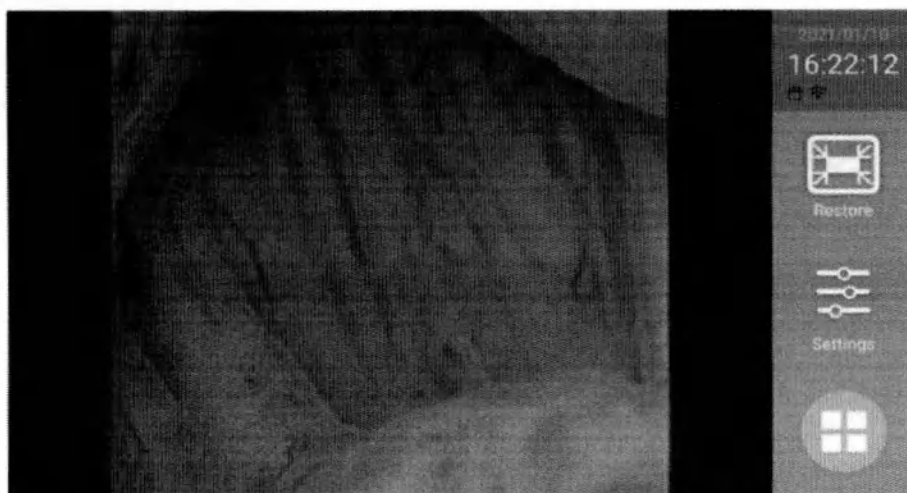
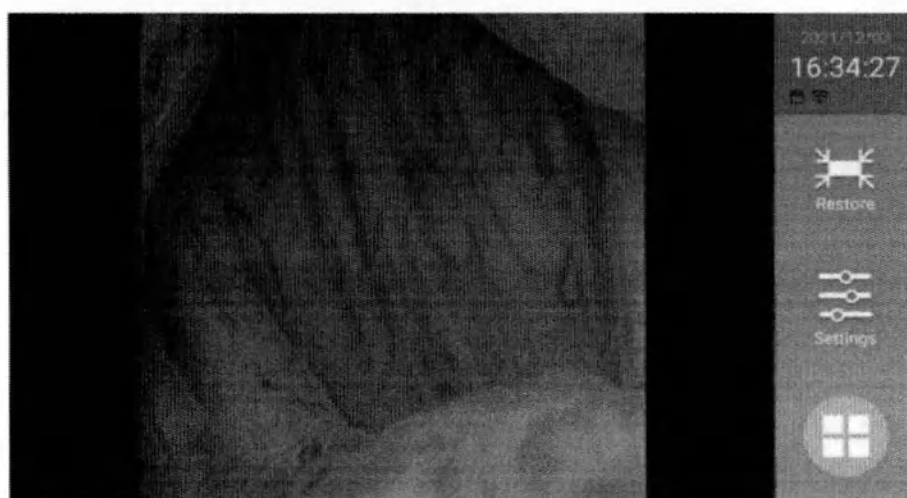

Fig4.2 Real time image (VS600) – not applied
Fig4.3 Real time image (VS610)
4.1.2. After starting up, the LOGO shows 10 seconds, and the default is in the preview mode, means real-time endoscope image. (See Fig 4.2, Fig 4.3)